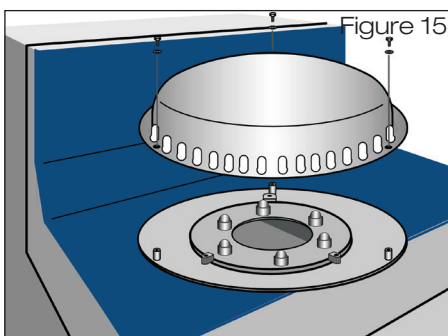

Figure 15
2.7 Screw the suction cover to the base plate using the fixing screws and washers provided (Fig. 15 or 15A). Tighten the enclosed screws using an AF 10 open-ended or ring spanner.